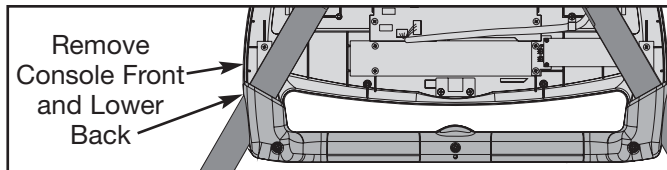

Figure 26
- Using a Phillips head screwdriver, remove the three screws securing the lower back of the console in place and gently pull the back off. See Figure 26. **NOTE:** Gently, suspend the lower back by the wires, being careful not to damage any of the wires.